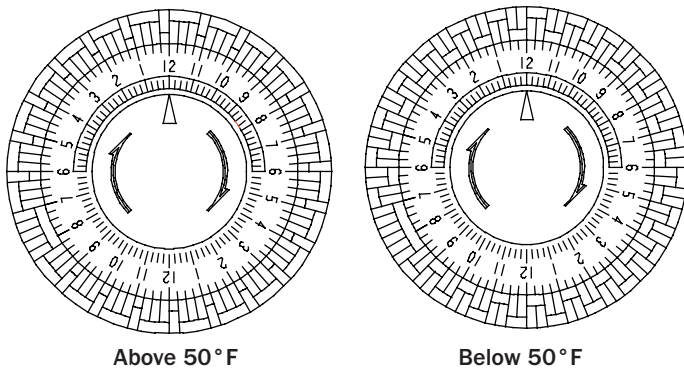

Figure 1: Defrost Control Timer
3. The timer is fastened to the right inside panel. Every fourth peg around the dial is pushed out from the dial center except one section with 5 pegs out in a row. See figure 1. Each fourth "out" peg represents 15 minutes of compressor "off" time during every hour that the unit is in the defrost cycle.
4. To improve performance below 50°F, the compressor "off" time must be increased to 30 minutes per hour to allow the frost to completely melt. To do this, push the pegs out from the dial center so that the pegs alternate with 2 toward the center, then 2 out from the center, all the way around the dial except for the section now with 6 pegs out in a row (see Fig. 1).